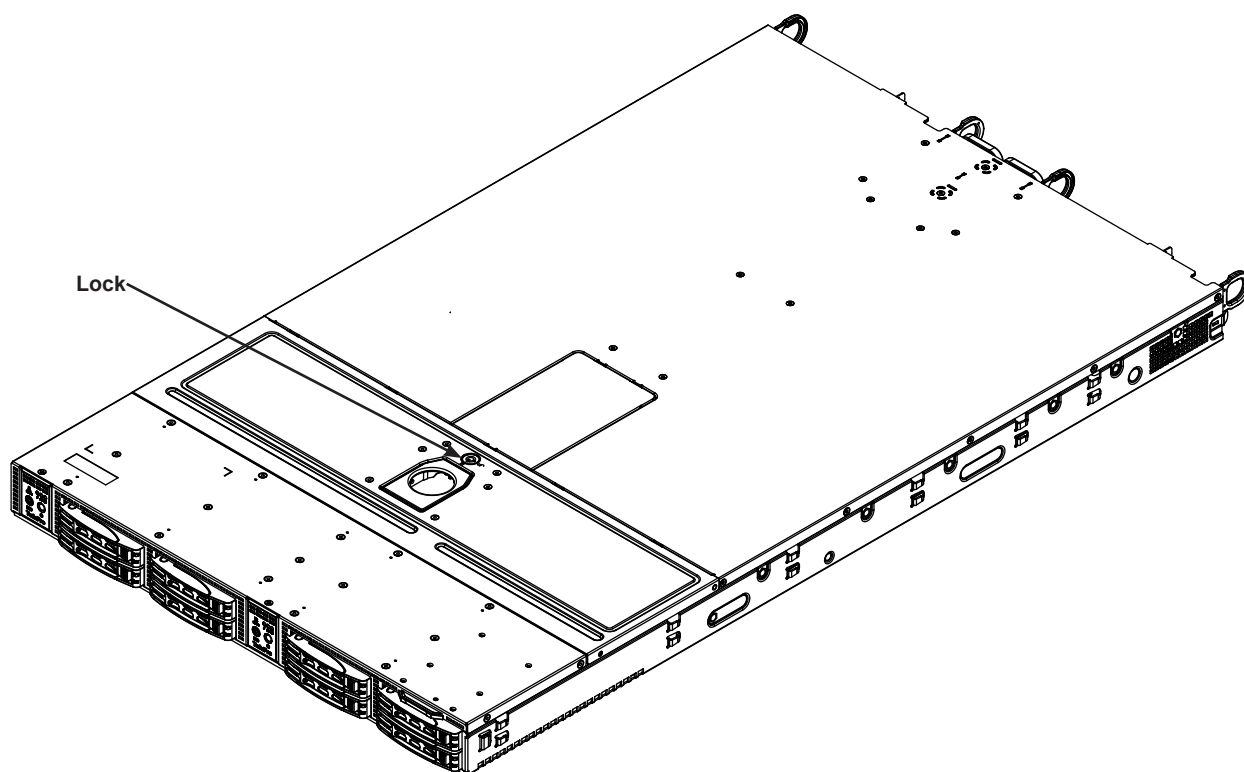

Figure 3-2. Unlocking the Cover Lock
3. Use the key to unlock the cover lock (see figure 3-2).